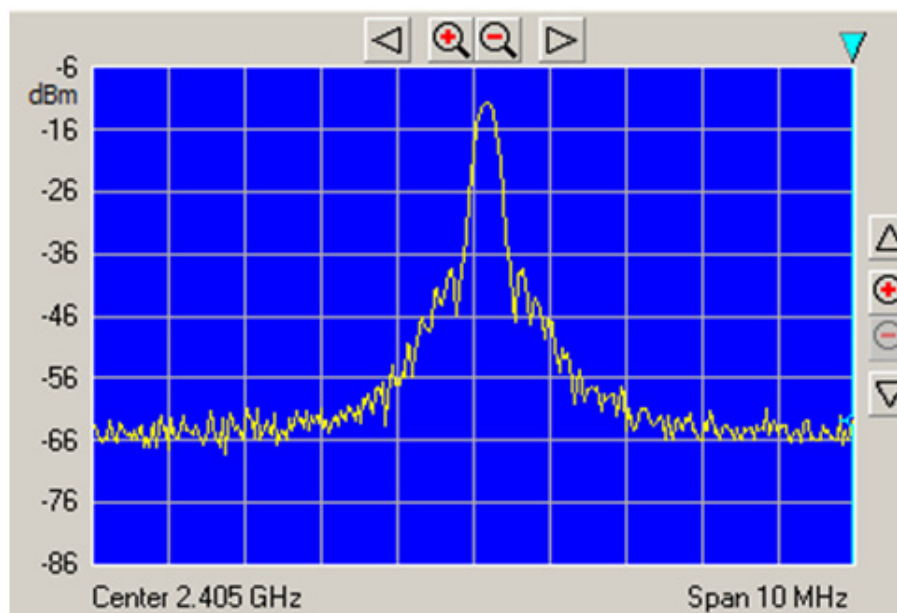

Figure 3-14. TX without modulation Mode Capture
Figure 3-14 shows Continuous Wave (CW) Mode.